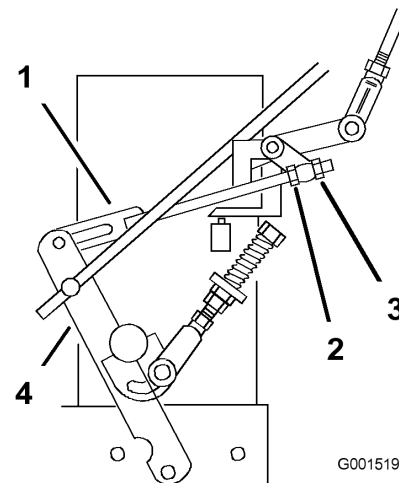

Figure 38
8. Loosen the front adjusting nut on left hydro control linkage as shown in Figure 38.
9. Turn the left rear adjusting nut counter-clockwise until wheel rotates forward (Figure 38).
10. Turn the rear adjusting nut clockwise 1/4 of a turn at a time. Then move the speed control lever forward and back to neutral. Repeat this until left wheel stops rotating forward (Figure 38).